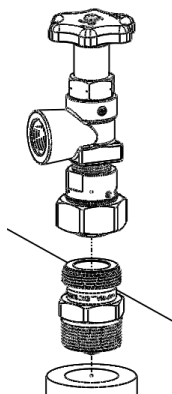

Figure 3
2. The Liquid Transfer Shutoff Valve must be in the open position and securely attached to the Liquid Transfer Adapter before connecting to the Liquid Withdrawal Tank Valve (Figure 3)